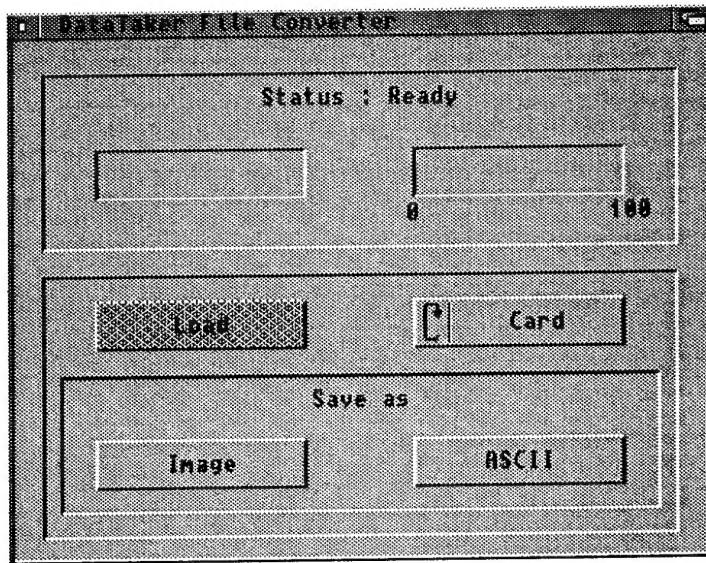

Figure 1. Card Converter main window
The Card Converter program is started by moving the mouse pointer over the Card Converter icon and double clicking the mouse (clicking the left mouse button twice). The program interface consists of a number of buttons (known as gadgets) and pull down menu items. The main program window can be seen in Figure 1.
The media gadget (shown in Figure 1, with the caption 'Card') toggles between 'Card' and 'File'. The 'Card' option is selected when the data on a PCMCIA card is to be uploaded. The 'File' option is selected when a previously stored card image file is to be converted from the Data Electronics format to an ASCII format suitable for loading into other software such as a spreadsheet.
1. Double click the 'Card Converter' icon	This starts the program. A window titled 'Datataker File Converter' will be displayed. (Section 2.1-2.2, Figure 1)